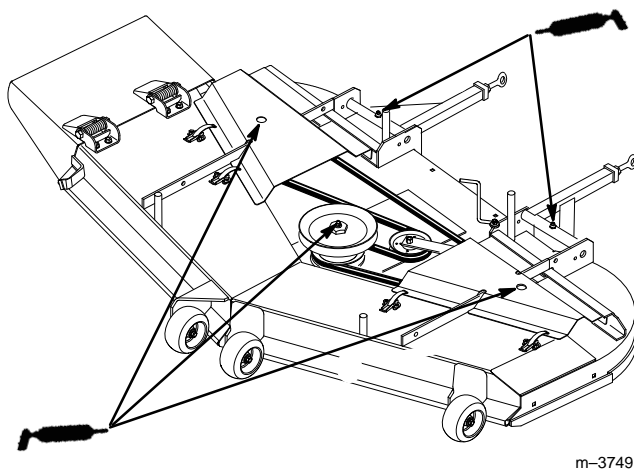

Figure 46
2. Grease the fittings on the three spindle bearings (Fig. 46).
3. Grease the fittings on the push arms (Fig. 46).